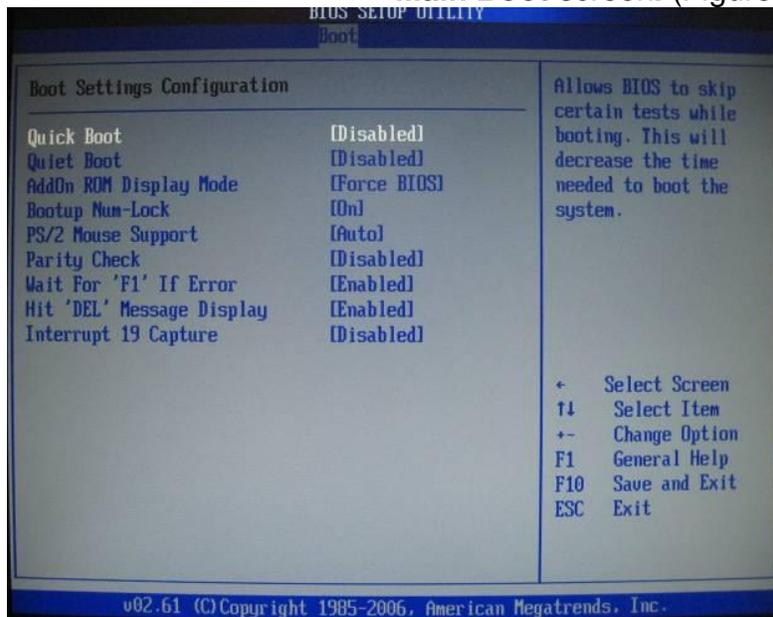

Figure 8-47 Boot Settings Configuration Screen
37. On the **Boot Settings Configuration** screen, select **Quick Boot**. No changes are necessary. Press **Enter** to return to the **Main Boot** screen. (Figure 8-47).